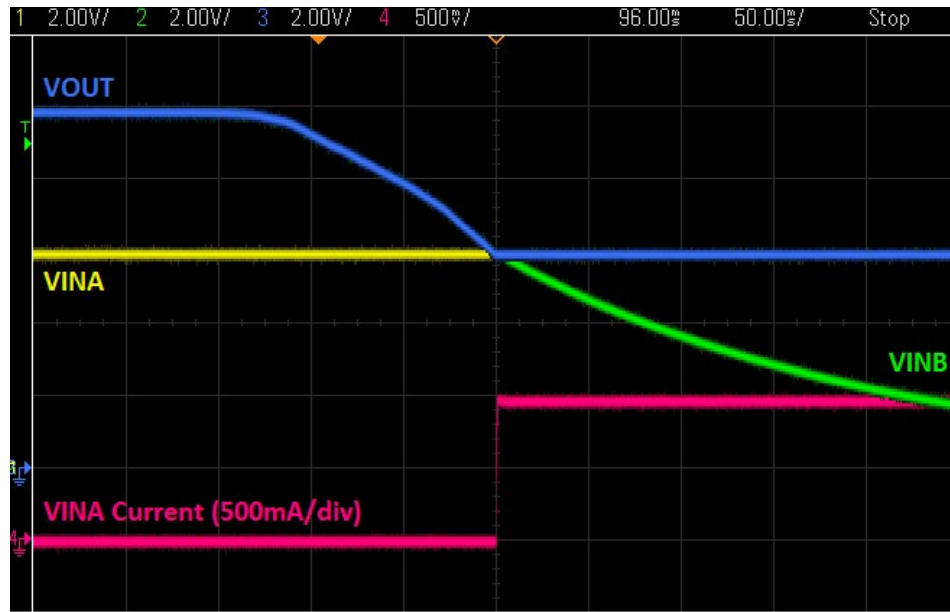

Figure 3. Diode-OR Using Figure 2. VINB's Voltage Drops, VOUT settles to VINA, which Carries the Load
6. Decrease the voltage on one of the supplies to 0V. Notice the output voltage does not collapse. The other supply carries the load. See Figure 3 for a scope-shot illustrating this concept.